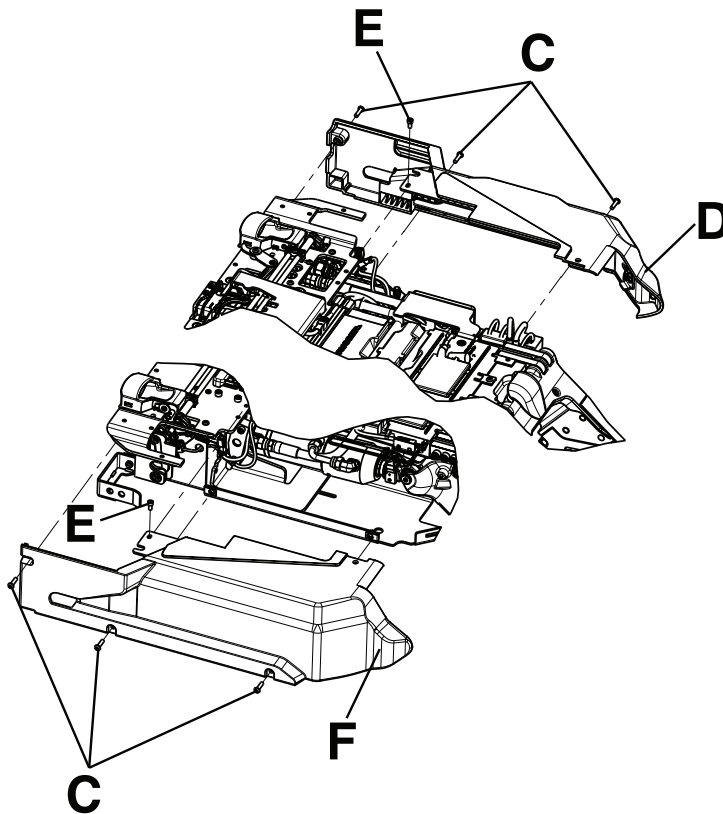

Figure 7: Trolley side covers
2. Using a T25 Torx driver, remove the three screws (C) left side cover (D) (Figure 7 on page 42).
3. Using a 5/32" hex wrench, remove one hex head screw (E) from the top of the left side cover (D) (Figure 7 on page 42).
- Repeat steps 2-4 to remove the side cover, right (F) (Figure 7 on page 42).